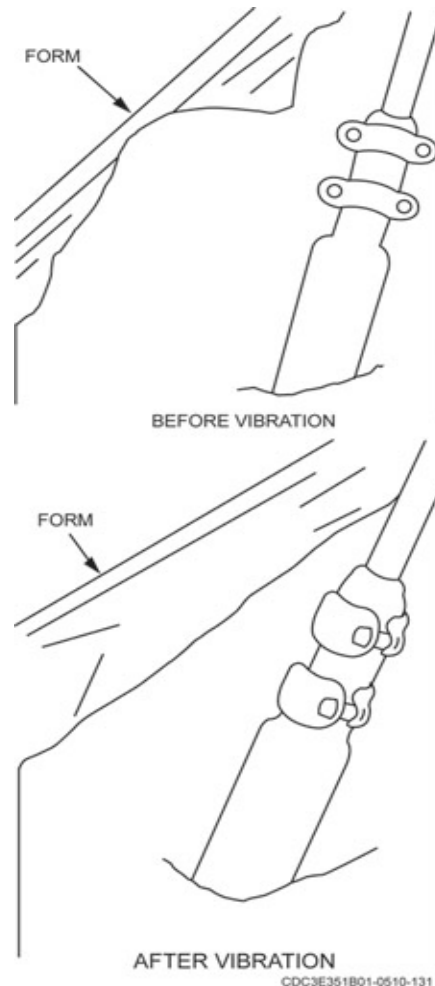

Figure 1-56. Using a vibrator to consolidate concrete.
- Insert it at approximately 18-inch intervals into air-entrained concrete for 5 to 10 seconds and into nonair-entrained concrete for 10 to 15 seconds. The exact period of time that you should leave a vibrator in the concrete depends on its slump (fig. 1-56).